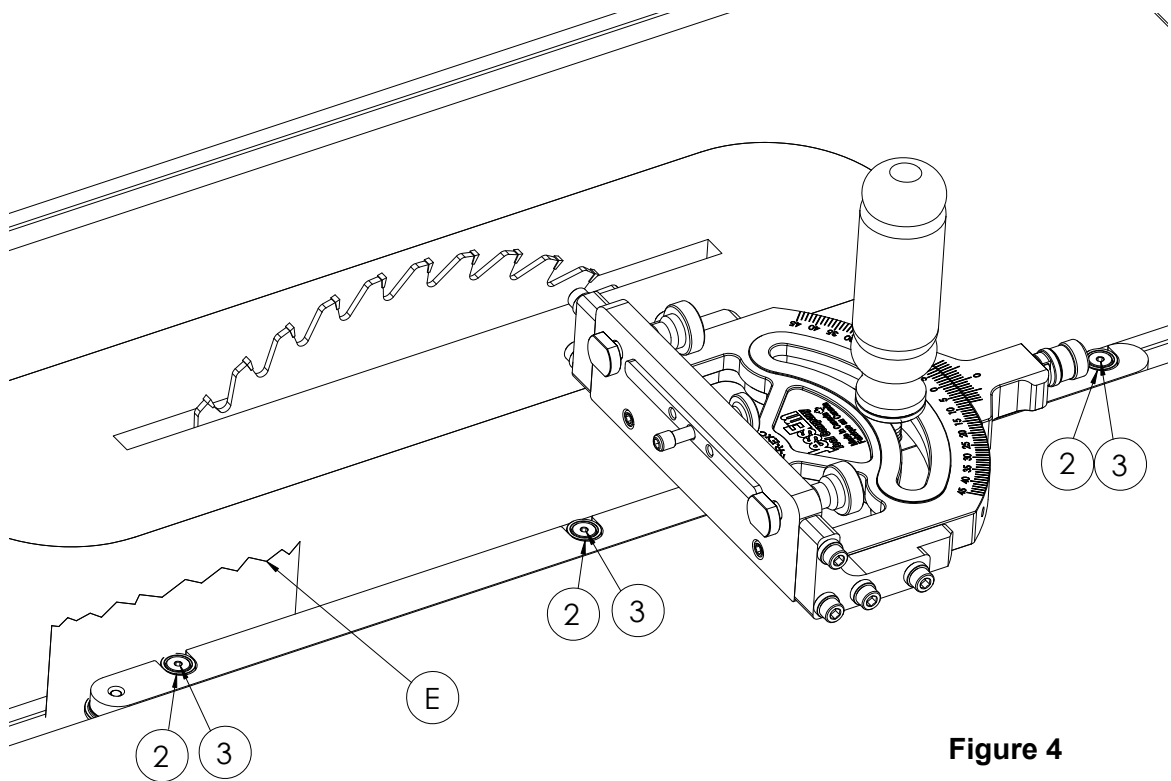

Figure 4
- a. With the 3/32" hex key, loosen the (3) three snuggler screws (Part #3), and slide the gauge into the miter slot on your table saw.
- b. Place a single sheet of paper in between one of the snuggers (See **Part E** in **Figure 4**) on the guide bar and the side of the miter slot. See **Figure 4**. With the 3/32" hex key tighten the snuggler mounting screw (Part #3) Repeat this step at each of the three snuggler locations.